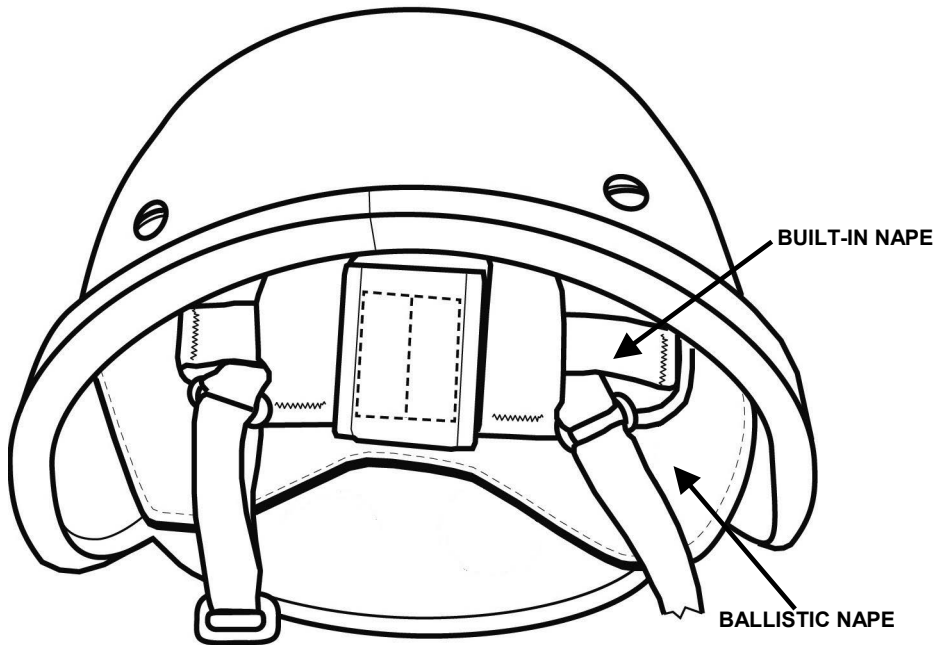

Figure 10. Ballistic Nape Pad Installed on Improved H-Nape Retention System.
4. Reinstall the attachment tabs to the left front and rear of the helmet, using the hardware removed earlier (Figure 10). Be sure the webbing is not twisted